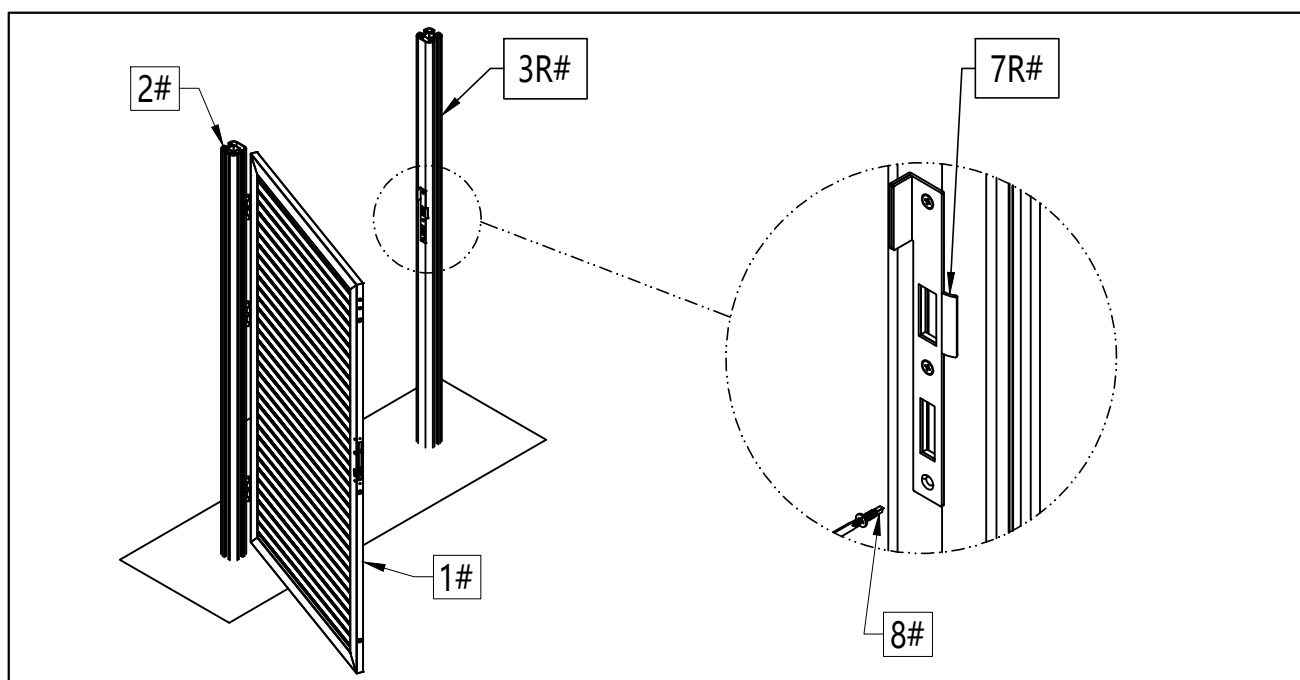

Figure 11
- 11 Put the Strike Plate (7R#) onto the Gate Post (3R#) in place and fix it with Screws (8#), as shown in Figure 11.